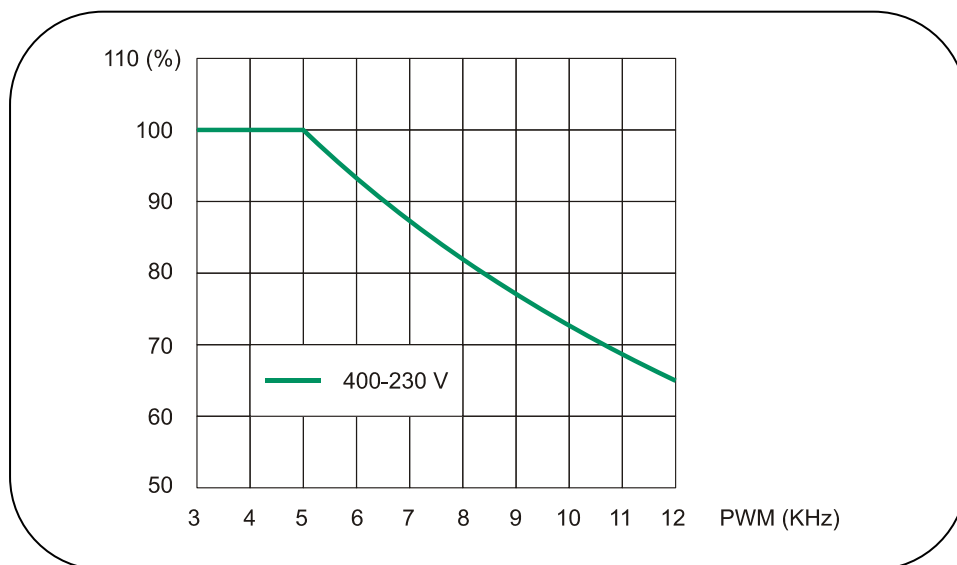

FIG. 4 (Converter derating)
- (1) Connection C56 determines the type of overload.
(2) Rated current for continuous duty at 5kHz PWM. **FIG.4** shows the automatic derating pattern as a function of PWM frequency (P101) and AC supply (P87).
(3) Allowable ambient temperature up to 45 °C. In this case, derate current to 88% I_n.
(4) At altitudes above 1000 m above sea level, derate current by 1% each 100 m.